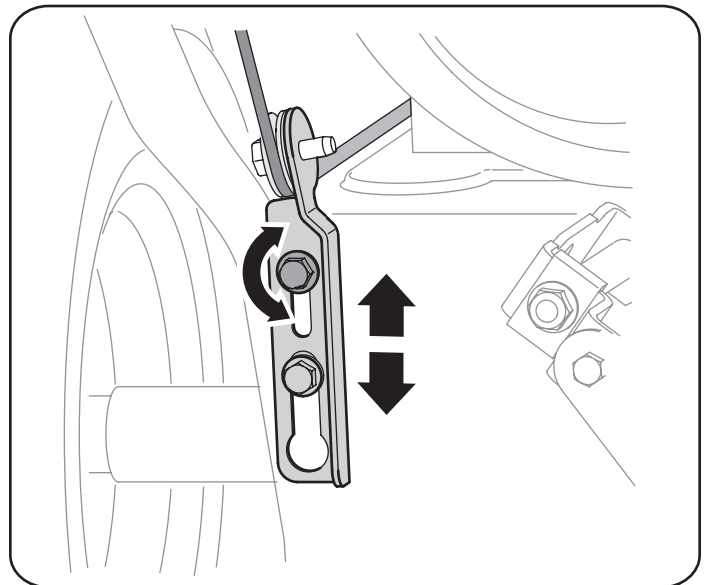

Figure 9
4. Allow the auger to remain engaged for approximately ten (10) seconds before releasing the auger control. Repeat this several times.
7. To readjust the control cable, loosen the upper hex nut on the auger cable bracket. See Figure 9.